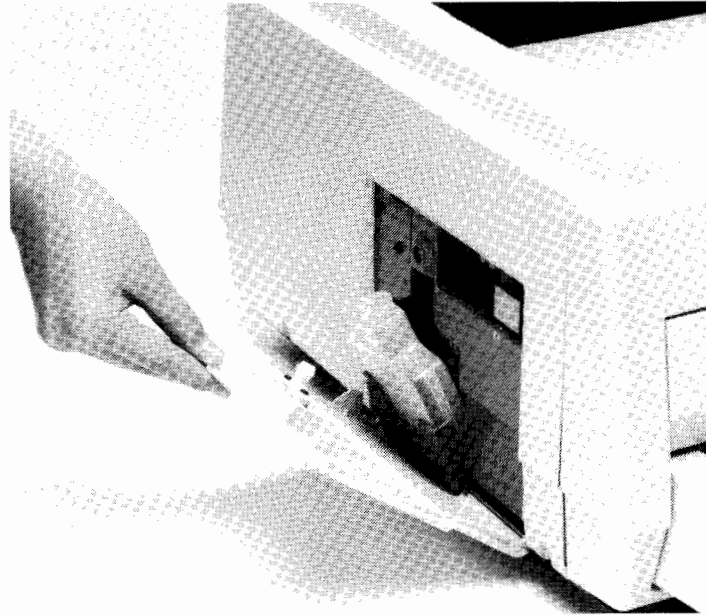

Figure 4-7. Opening Left Side Cover
- a. Open the left side cover (figure 4-7).